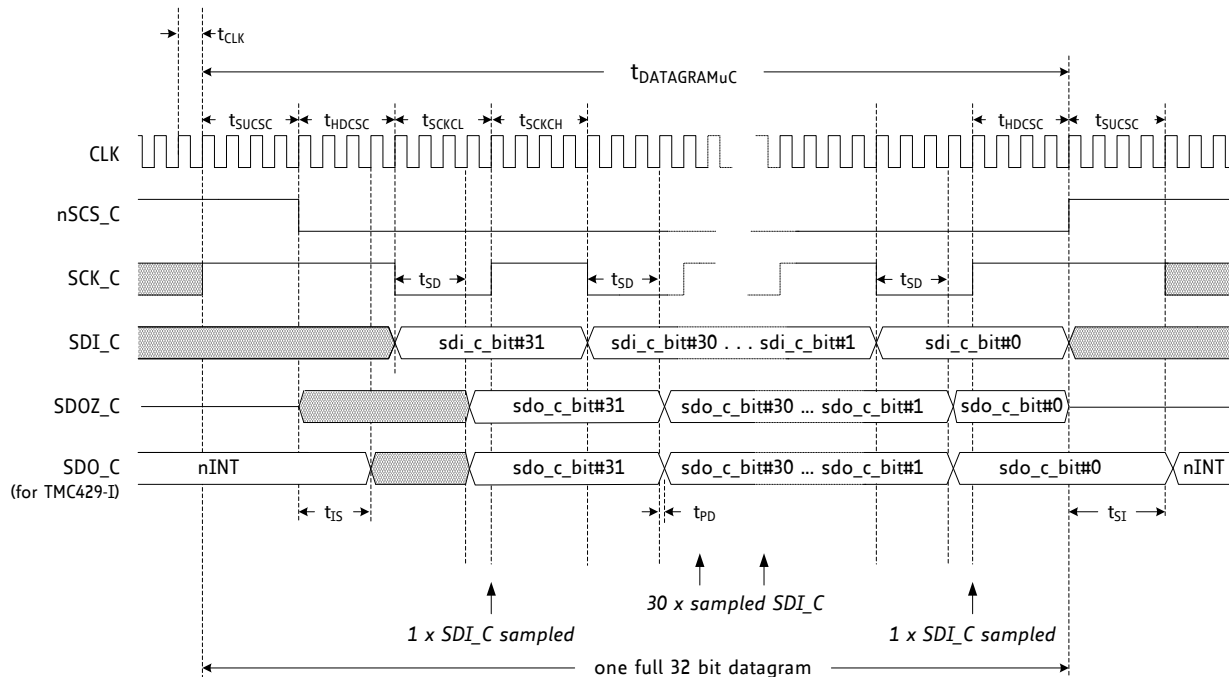

Figure 6.1 Timing diagram of the serial μ C interface
The first bit sent is the *most significant bit (MSB)* sdi_c_bit#31. The last bit sent is the *least significant bit (LSB)* sdi_c_bit#0 (see Figure 6.1). During the reception of a datagram, the TMC429 immediately sends back a datagram of the same length to the microcontroller. This return datagram consists of requested read data in the lower 24 datagram bits and status bits in the higher 8 datagram bits. A read request is distinguished from a write request by the read/not write datagram bit (RW).